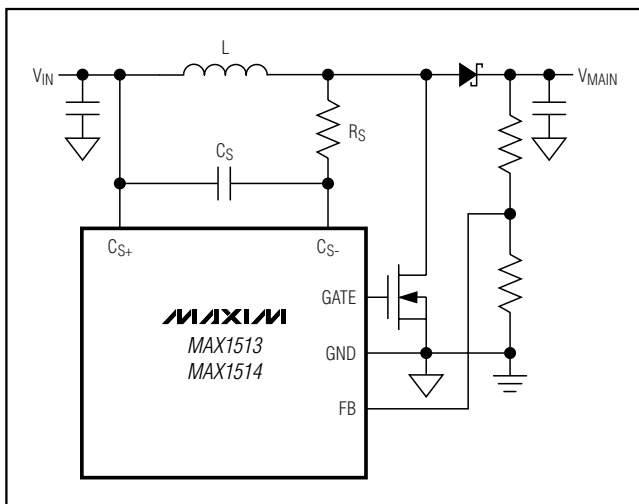
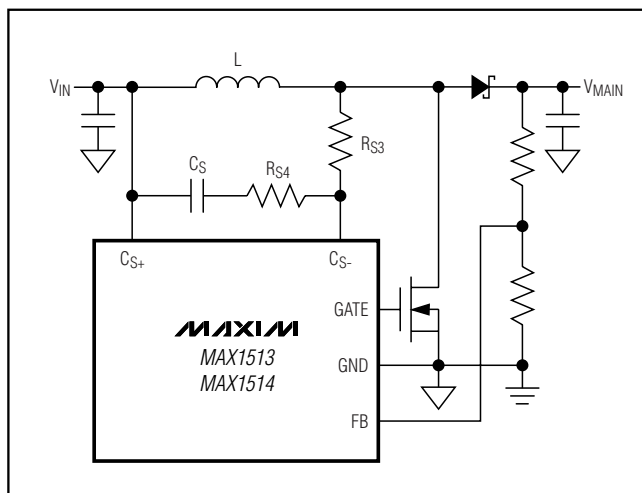

Figure 8. Lossless Current Sensing with  $80mV < V_{SENSE} < 100mV$
Figure 10. Lossless Current Sensing with  $V_{SENSE} < 80\text{mV}$
4) Compare the calculated sense voltage with the minimum value of the current-limit threshold in the *Electrical Characteristics* (100mV). If the sense voltage is between 80mV and 100mV, use the current-sense configuration in Figure 8 with the calculated  $C_S$  and  $R_S$  above.
6) If  $V_{SENSE}$  is less than 80mV, the current-feedback signal is low relative to the current-limit threshold. Use the Figure 8 configuration, or, if good current-limit accuracy is desired, use the optional current-sense configuration in Figure 10 to increase the amplitude of the sense signal. Calculate  $R_{S3}$  and  $R_{S4}$ :
Because  $V_{SENSE}$  would be between 80mV and 100mV, the circuit in Figure 8 should be used. The closest 1% standard value for  $R_S$  is 909 $\Omega$ .
Because  $V_{SENSE}$  would be much less than  $80\text{mV}$ , the circuit in Figure 10 can be used to improve the current-limit accuracy. Calculate  $R_{S3}$  and  $R_{S4}$ :